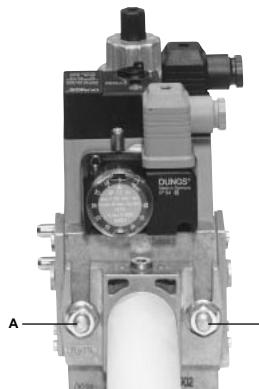

Fig. 20
3. tighten screws A, B, C and D (Fig. 20 - Fig. 21), accordind to the mounting positions (Fig. 23);
1. Loosen screws A and B **do not** unscrew (Fig. 20 - Fig. 21).
2. unscrew screws C and D (Fig. 20 - Fig. 21).